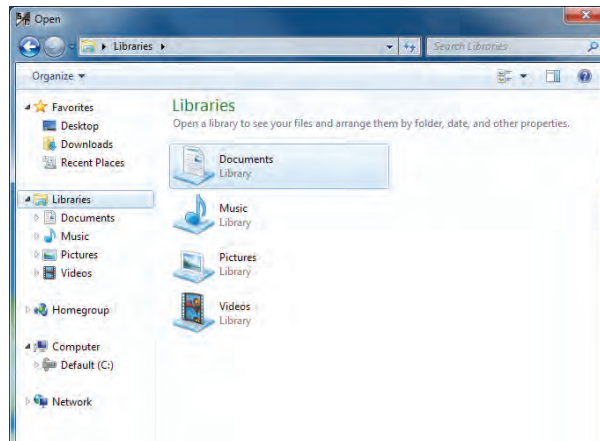

Figure 33. The Open Security Database window.
STEP 28. The **Open Security Database** window will open. See Figure 33 on page 21. Enter the file name of the SAD database, and click the **Open** button.